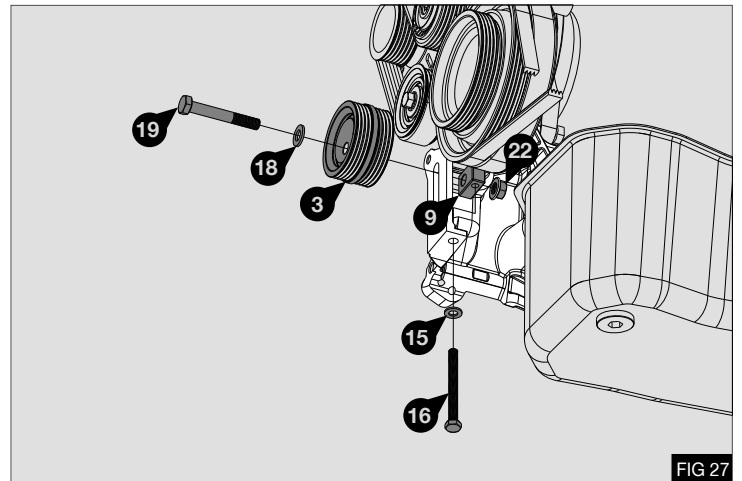

FIG 27
- Assemble tensioner pulley (3) onto mounting bracket (1) using block (9), M8x 80 bolt (16) with M8 washer (15), M10 x 70 bolt (19), M10 flat washer (18) and M10 flange nut (22). Do not tighten at this stage - Fig 27